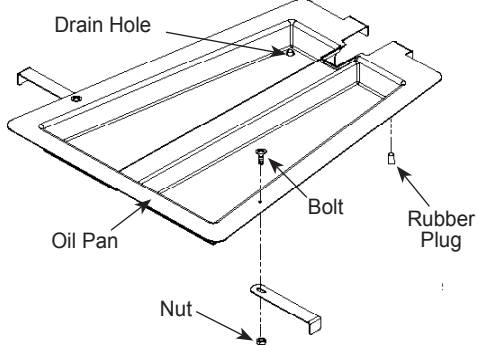

Figure 1 - Oil Drip Pan Illustration.
**Assembly** (refer to Figure 1)
Refer to Figure 1 and table below, call or write for current pricing.